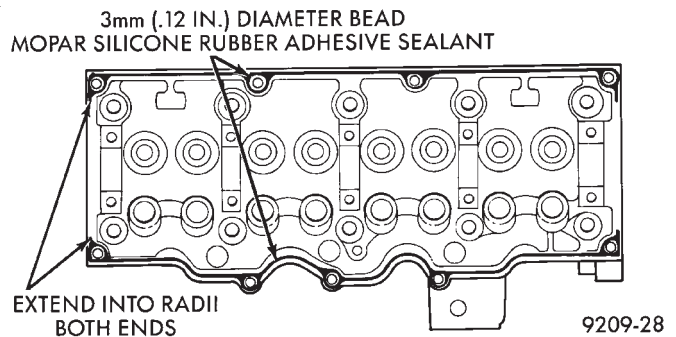

Fig. 3 Cylinder Head Valve Cover Rail Sealing
- (1) Install new end seals on valve cover.
- (2) Apply form-in-place Mopar Silicone Rubber Adhesive Sealant or equivalent gasket material to cylinder head cover rail (Fig. 3). Refer to procedure detailed in form-in-place gasket section of Standard Service Procedures, in this Group.
Removal and installation of cylinder head or camshaft require separation of camshaft timing sprocket from camshaft. To maintain camshaft, intermediate shaft, and crankshaft timing during service procedures, the timing belt is left indexed on the sprocket while the assembly is suspended under light tension (Fig. 3).